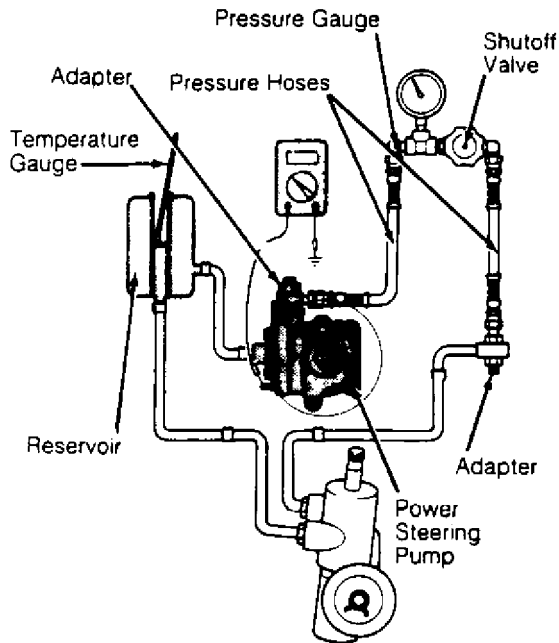

Fig. 11: Connecting Pressure Gauge Shutoff Valve Assembly
1) Disconnect pressure hose from power steering pump. Connect, in line, a pressure gauge and hoses capable of handling 300 psi (21 kg/cm²). Also connect a shutoff valve in line with pressure gauge. See Fig. 11.